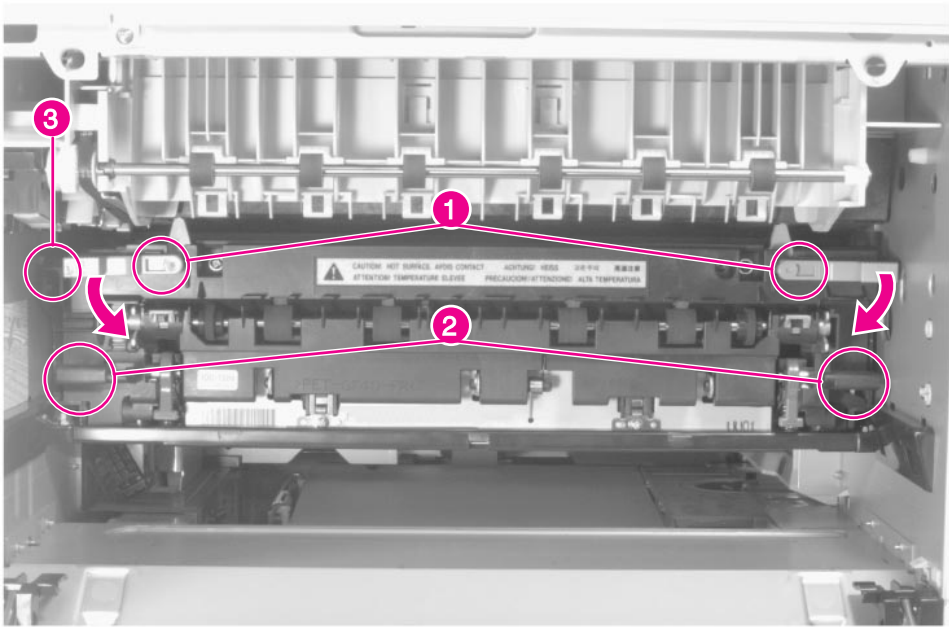

Figure 6-36 Fusing Assembly
- 2 Remove the Fusing Assembly (see figure 6-36 on page 202).
- 2 To release the Fusing Assembly rotate the upper levers down (figure 6-36, callout 1).
- 3 To remove the Fusing Assembly lift up on the finger handles (figure 6-36, callout 2) while pulling outward.
- 1** Make sure that the Fuser Output sensor flag (figure 6-36, callout 3) on the upper left corner of the Fusing Assembly rotates freely.